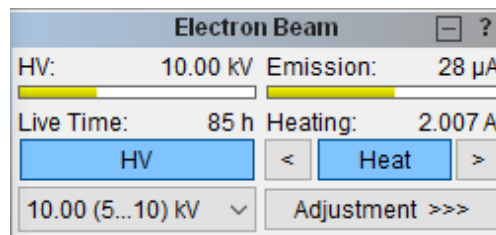

Figure LV1. Electron beam panel.
1. Click on **Heat** button in the ELECTRON GUN panel to turn off the gun but leave the voltage on the LaB6 filament (See Fig. LV1).